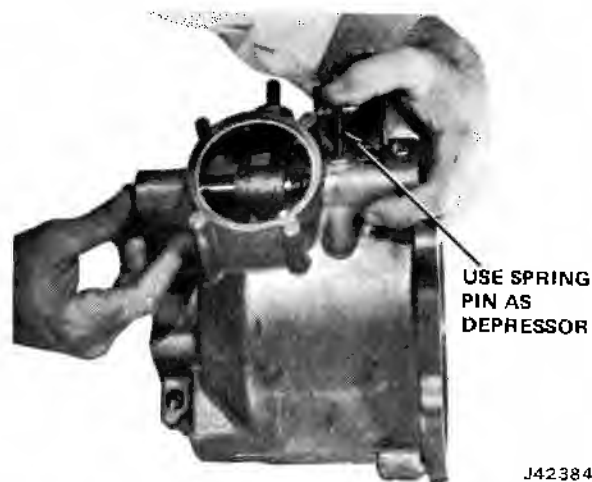

Fig. 8-33 Installing Shift Rail and Poppet
- (5) Move shift lever assembly inward just far enough to allow installation of shaft locating taper pin.
- (6) Install taper pin.
- (7) Insert shift rail, grooved end first, into shift rail rear bore in case.
- (8) Rotate rail so feel side will be adjacent to poppet spring.
(9) Slide rail far enough to allow shift fork to be meshed with shift lever assembly and on rail.
(10) Move rail through shift fork until end of rail is even with edge of poppet bore.
(11) Place poppet ball on end of spring.
(12) Use a spring pin as a tool to depress poppet ball (fig. 8-33).